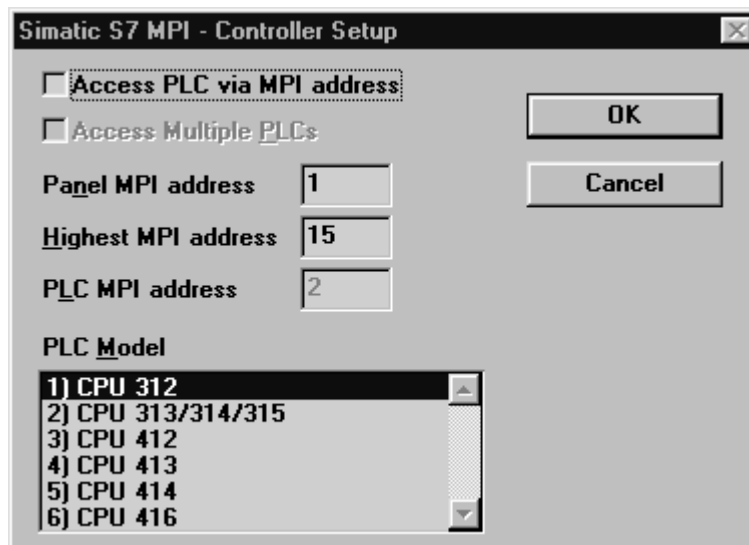

Figure 1. Controller Setup
- Select the type of CPU that you intend to use with the option “Project/Controller Setup” (see Figure 1).
1. select the option "Project/Controller Setup" (see Figure 1);